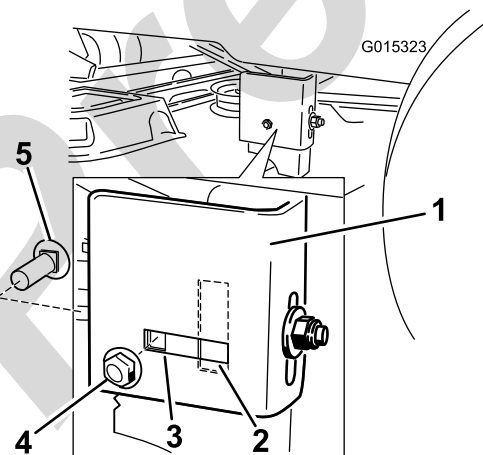

Figure 51
- Move to the left side of the machine. Remove the side carriage bolt and locking nut from the fixed position and install it into the rear, slotted position (Figure 51). Leave the lock nut slightly loose.
- Loosen the rear locking nut on the hanger bracket just enough to allow the hanger to be adjusted (Figure 51).